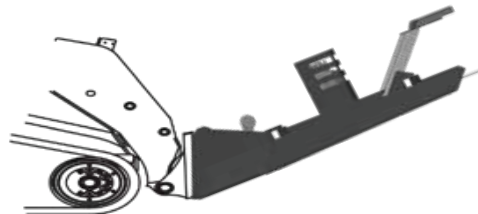

FIGURE 3.2B - COUPLER TO BRACKET
3. Slightly tilt the skid steer Quick Attach Coupler up until the coupler and mounting bracket fully engage. See figure 3.2b below.